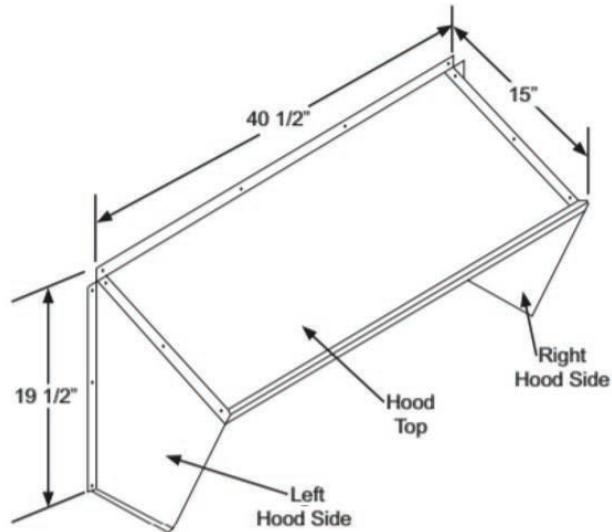

Fig. 33 — CRBARTHOD001A00 Hood Sides and Top
5. Using the provided hardware, screw the CRBARTHOD001A00 hood sides and top together (see Fig. 33).